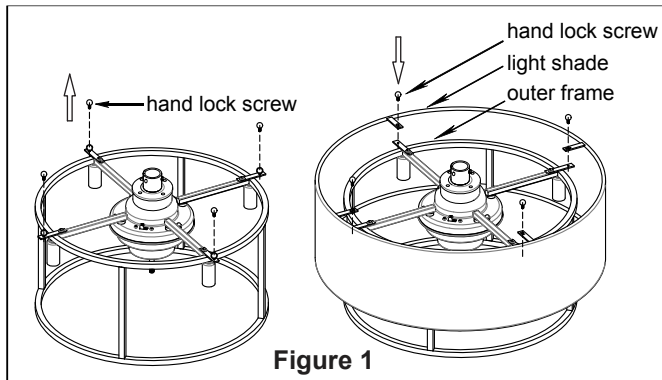

Figure 1
1. First, take out the four hand lock screws on the outer frame, align the mounting holes of the light shade with the four threaded holes on the outer frame, and tighten and fix the light shade with four hand lock screws. (Figure 1)